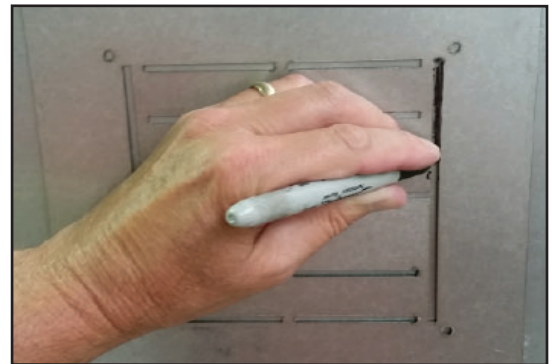

FIGURE 4
- d. The Duo unit may be installed directly onto a sheet metal air duct or plenum, or onto fiberglass ductboard when installed using the included Ductboard Adapter Plate (see Figure 4)